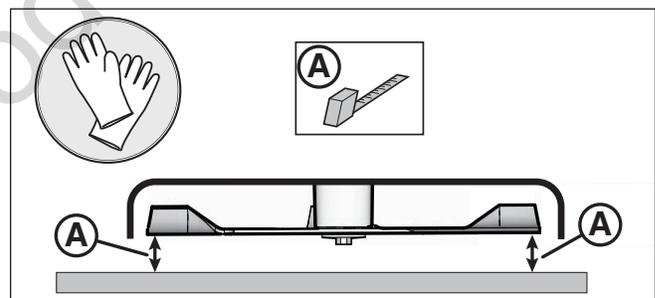

Figure 42. Checking the Blade Height Adjustment
7. See Figure 42. Position the outside mower blades so they face front-to-back.